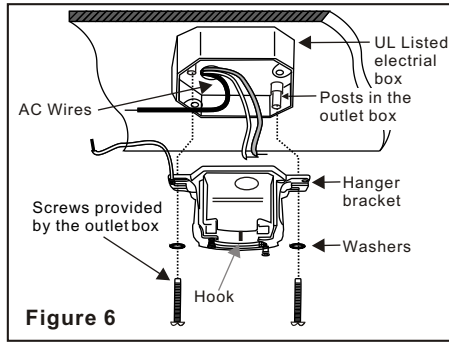

Figure 6
Step 7. Install the hanger bracket to the outlet box; be sure to align the holes in the hanger bracket with the post holes in the outlet box and secure with screws and washers provided by the outlet box. (Figure 6)